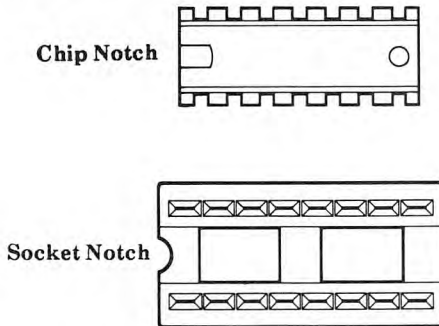

Figure 2-5. Location of chip and socket notches.
5. Align the notch on the chip with the notch on the socket. See Fig. 2-5. **Note:** If either the chip or socket has no notch, position the chip so that the wording on its back is in line with the wording on memory chips that are already installed.